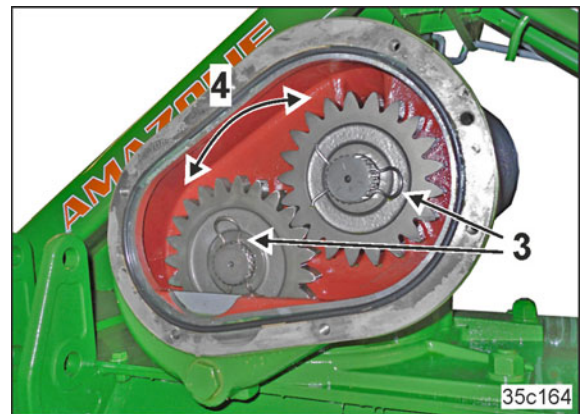

Fig. 161
8. Remove the retaining springs (Fig. 161/3)
- o swap them with each other (Fig. 161/4)